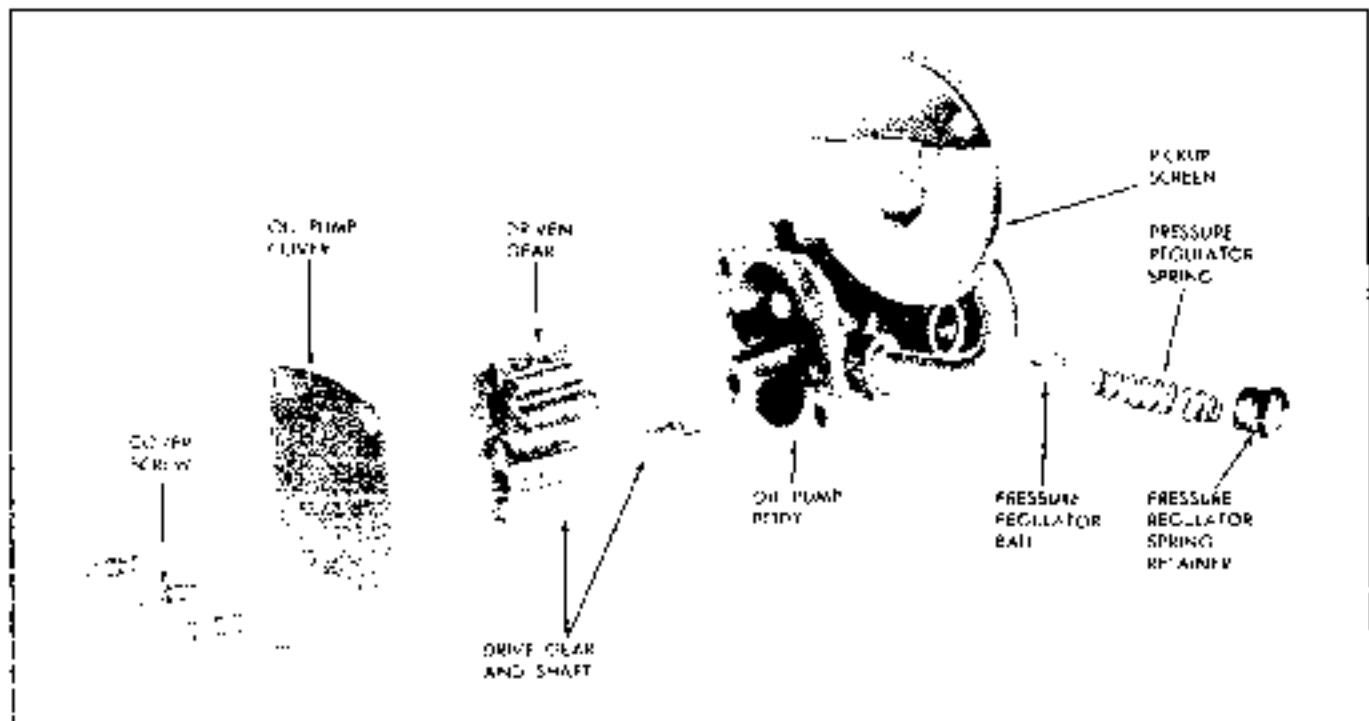

Fig. 6-104 Oil Pump—Exploded View
2. Inspect pressure regulator spring (Fig. 6-104) for distortion, cracks, and wear on sides.
5. Inspect pump gears and end of drive gear shaft for wear (Fig. 6-104).